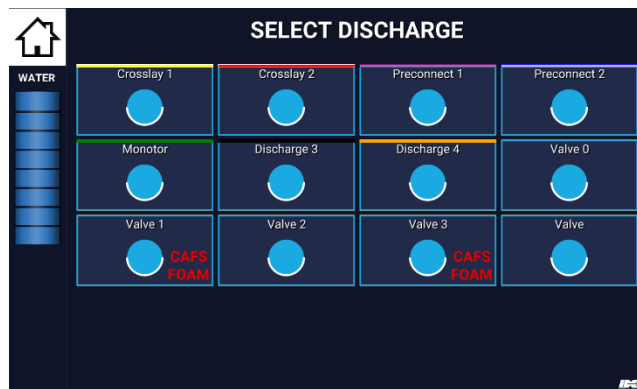

Figure 12. Selecting A CAFS Capable Discharge
- B. Touch PUSH TO PUMP (or ADD LINE) target, to display SELECT DISCHARGE screen. See Figure 12.